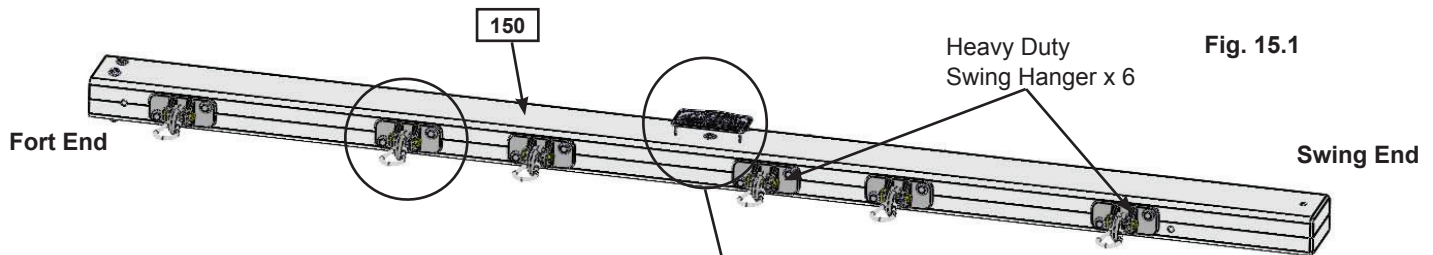

Fig. 15.1
A: Attach 6 Heavy Duty Swing Hangers to (150) Engineered SW Beam using 2 (G13) 5/16 x 6-1/8" Hex Bolt (with 2 flat washers, plastic formed washer and lock nut) per swing hanger, as shown in fig. 15.1 and 15.2.
C: Install 1 (WB7) 5/16 x 3" Wafer Bolt (with flat washer and t-nut) in the middle bolt hole, from the bottom up, in (150) Engineered SW Beam as shown in fig. 15.1 and 15.4. **IT IS IMPORTANT THAT THIS BOLT IS ATTACHED. IT WILL MINIMIZE CHECKING OF WOOD.**